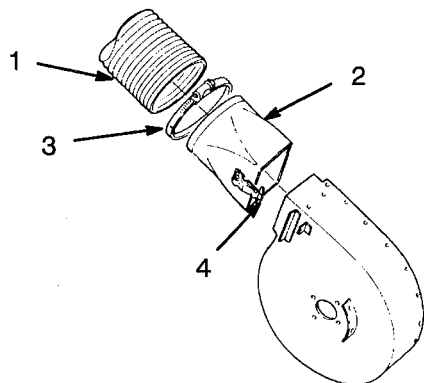

Figure 14
1. Assemble tube onto adaptor and secure with clamp (Fig. 14).
2. Slide adapter onto blower assembly and secure with latch handle (Fig. 14).